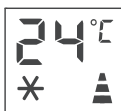

Fig 13
3. Press again the ⌚ button or the 🔌 button, the timer will be canceled, and the 🔌 symbol will disappear from screen. (fig.13)